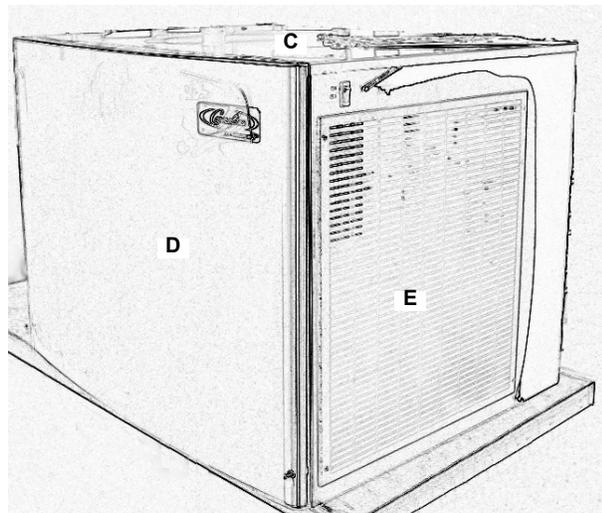

Figure 50.
- 65. Replace the top cover (C) and the front panel (D). Attach the louvered panel (E) with (4) black, hex head screws (Figure 50).